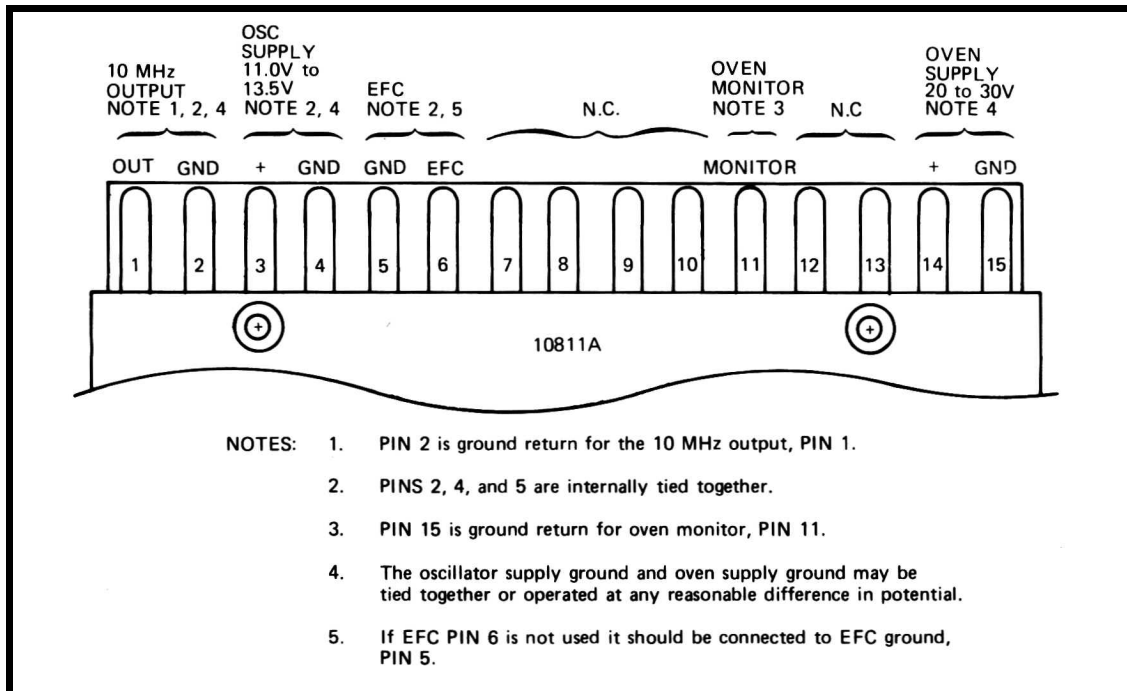
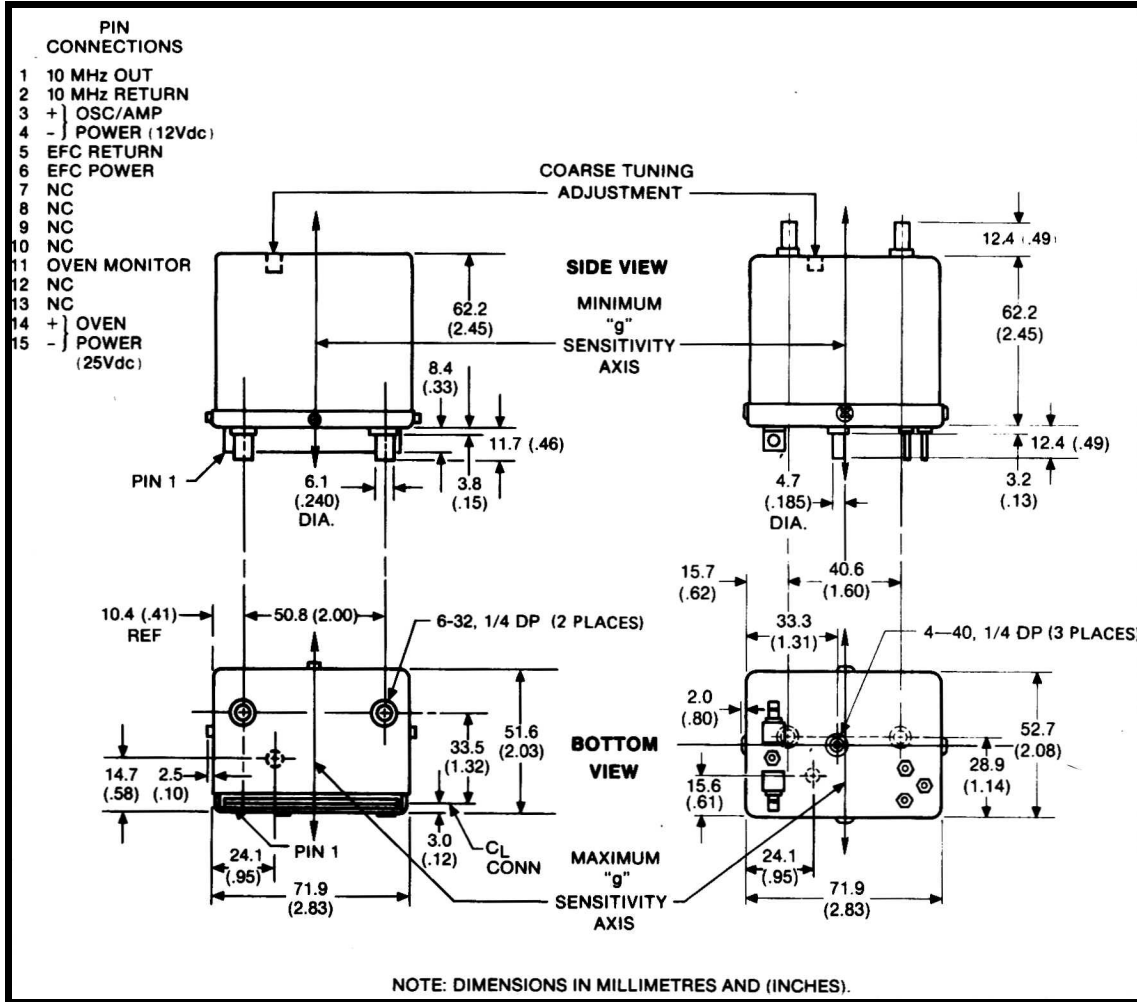

Figure 2-3. 10811A Supply and Output Connections
Figure 2-5. Mechanical Mounting Dimensions
2-21. The 10811A Oscillator requires a 15-pin printed circuit connector. The recommended connector is the CINCH 250-15-30-210 (HP 1251-0160). The 10811A can be secured with two 6-32 screws, 1/4-inch long. Figure 2-3 shows the power supply connection for the 10811A. Figure 2-5 shows the mechanical mounting dimension for the 10811A and 10811B.
2-24. Figure 2-5 shows the mechanical mounting dimensions of the 10811A/B Oscillators for use in custom installation. Since all quartz oscillators are sensitive to shock, vibration, radiation fields, and ambient temperature changes, to obtain the best performance from your 10811A/B, these factors should be taken into consideration. To optimize performance therefore:
1. The 10811A/B should be mounted in an area that has a minimum amount of vibration or shock accelerations. In addition, the 10811 A/B should be mounted so that the vibrational forces act along the "minimum G sensitivity" axis shown in Figure 2-5.